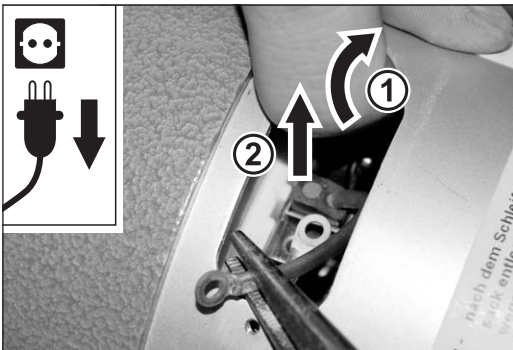
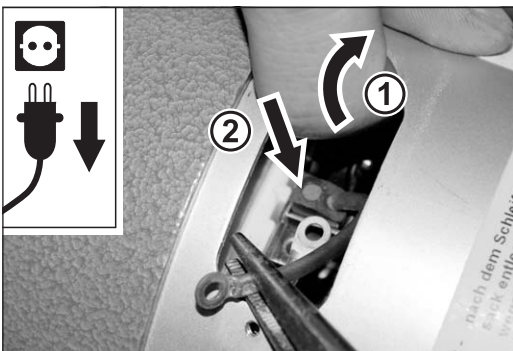

Fig. 52 Fold the tension clamp toward the right (1) and remove the carbon brush (2).
Fig. 53 With the tension clamp being held back (1), insert the new carbon brush (2).
- 5 Fold down the brass pressure clamp toward the rear side, remove the worn-out carbon brush (fig. 52) and insert the new carbon brush (fig. 53).